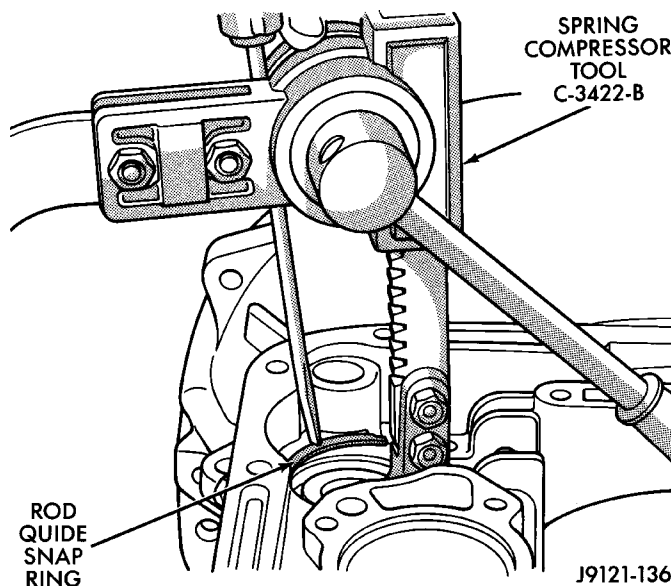

Fig. 109 Compressing Front/Rear Servo Springs
(3) Compress front/rear servo springs with Valve Spring Compressor C-3422-B and install each servo snap ring (Fig. 109).